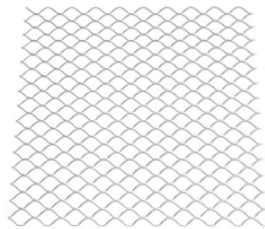

FIGURE 1 – DIAMOND MESH LATH
3.1.1 Expanded diamond mesh lath is a flat metal lath (see Figure 1), and the self-furring lath is a dimpled or grooved metal lath (see Figure 3).